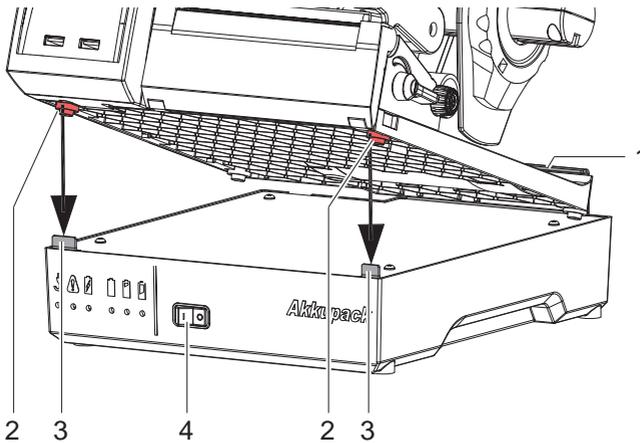
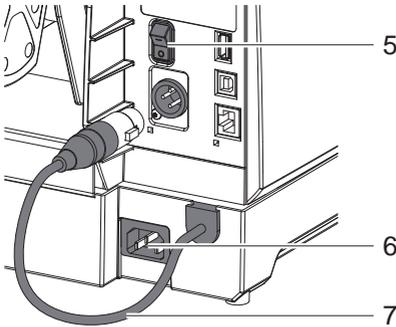

Fig. 1 Mounting
Fig. 2 Connecting
- ▶ Connect cable (7) to the printer.
- ▶ Switch on the power switches at battery pack (4, Fig. 1) and printer (5, Fig. 2).
- ▶ Plug the power cable into the power connection socket (7, Fig. 2).